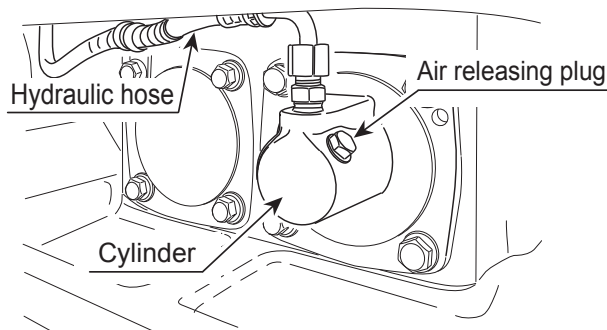

Figure 29. Removing Hydraulic Hose
3. Remove the hydraulic hose connected to the cylinder on the vibrator side (Figure 29).
9. Remove the air releasing plug of vibrator cylinder. Oil will then come out from the air releasing plug. After air bubbles stop coming out, reattach the plug. Tighten securely (Figure 29).